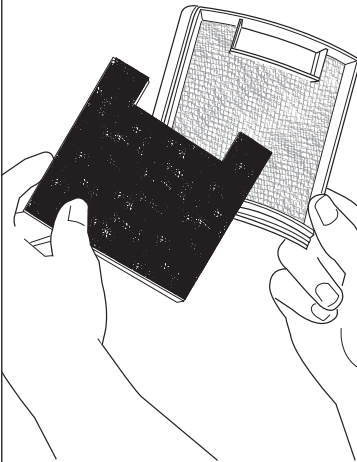

FIG. 16
Step 3: Remove foam from filter frame (FIG. 16). Shake filter frame and foam filter to remove excess dust. If necessary, the filter frame and foam filter can be rinsed in lukewarm water and air dried.